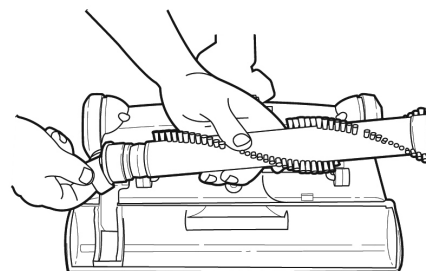

Figure 10
6. Now slip the belt onto the brush gear of the brush roller. (as shown in Figure 10)
8. Replace the Brush cover as described in item 7 under Brush Roller Cleaning.